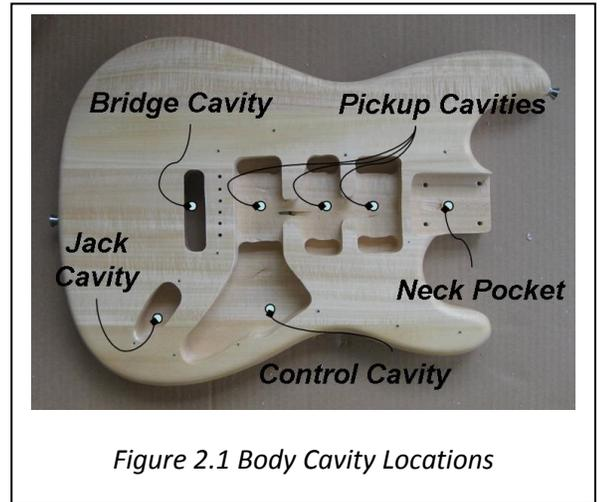

Figure 2.1 Body Cavity Locations
1. Check Neck pocket on the Body for pre-drilled (4) mounting holes (Figure 2.1).
If the Body has 6 holes drilled to mount the Bridge (shown in Figure 2.1), skip to 2.4.
1. Mount the Bridge (item 4 on the material list) in the Bridge cavity using 2 of the mounting screws, one in each end hole – tighten the two screws until they're flush with the top of the bridge plate, allowing the Bridge Plate to pivot on the outside screws.
2. Place the Pick Guard in the Pick Guard Cavity (reference Figure 2.1), temporarily running all wiring through the tunnel to the output jack cavity.
3. Carefully move the Pick Guard so that it is aligned with the Neck Pocket, the contours of the body and the Bridge – ensuring that the Bridge is free to pivot. Mark & pre-drill 2 holes in the Body for mounting the Pick Guard, one on each side of the Bridge. Using $3/8"$ screws (item 3 on Material list), attach the Pick Guard (2 screws) – again ensuring that the Bridge can move.
1. Check for pre-drilled holes (2) for the Output Jack (material list #9), reference Figure 2.1 & 2.8.
- a. Insert Output Jack in Jack Cavity (Fig 2.1).